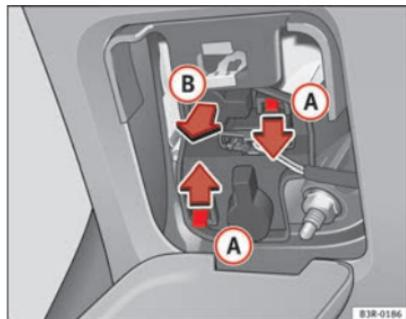

Fig. 220 Remove the bulb holder
- Press on the tabs **A** ⇒ Fig. 220 in the direction of the arrows and remove the bulb holder by pulling in the direction of the arrow **B**.